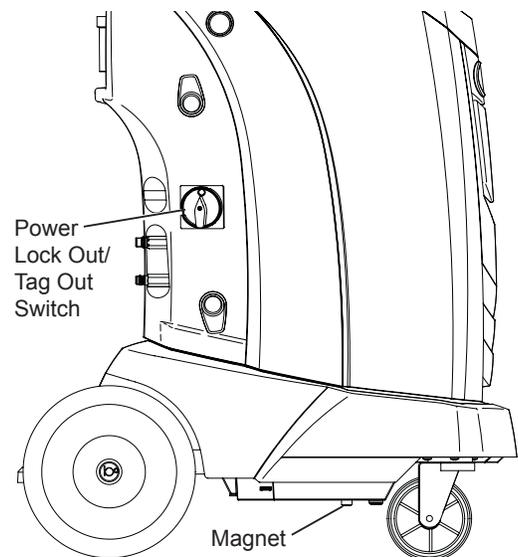

Figure 1-7. Calibration Check
1. Refer to Figure 1-7, and verify the magnet on the bottom of the machine is clean.